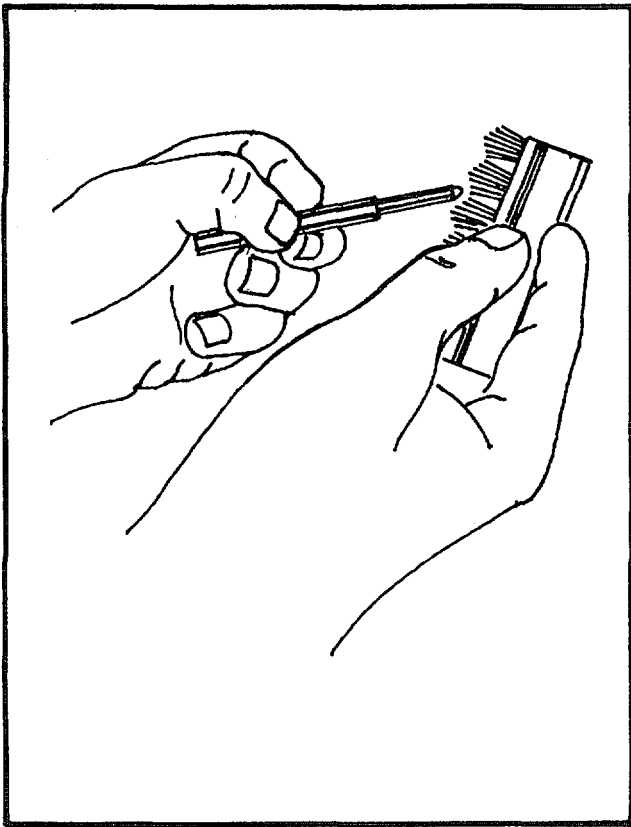

Figure 6-24. Cleaning Nozzle Valve
(6) Gum deposits may be removed with a brass wire brush, The upper portion (large diameter) of the valve should not be held between the finger, since damage from corrosion could re-suit, See Figure 6-24.